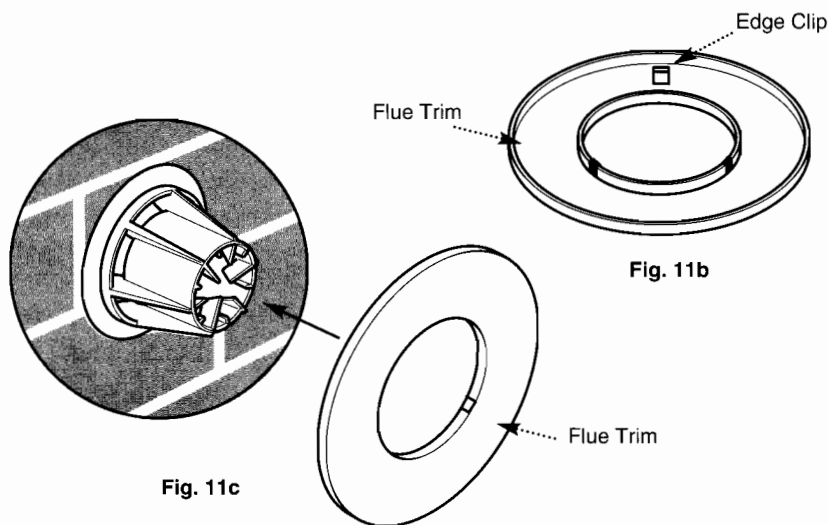

Fig. 11c
3. With the flanges towards the wall pass the trim over the terminal (Fig. 11c). If required a bead of sealant may be applied to the rear face of the trim.